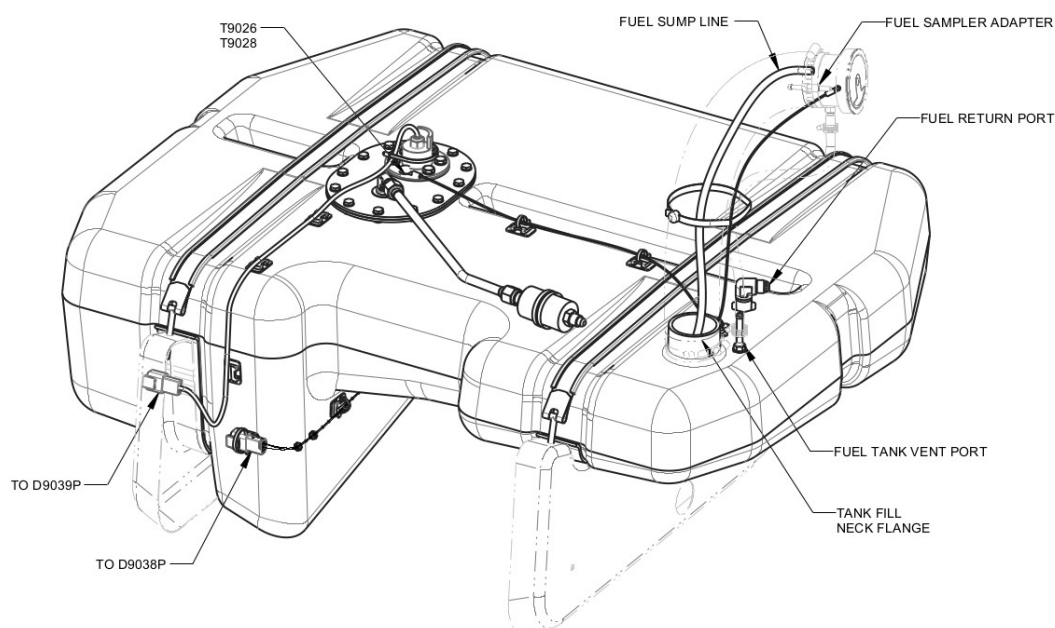

FIGURE 10-2
6. Disconnect the optical switch connector from D9038P. (See Figure 10-2.)
7. Disconnect the fuel level sensor connector from D9038P. (See Figure 10-2.)
8. Use a 7/16 wrench to remove bolt, washer, and T9028 terminal on fuel level sensor plate. (See Figure 10-2.)
16. Remove the fuel filler neck from fuel cap adapter and fuel tank opening flange to expose fuel sump hose. (See Figure 10-2.)